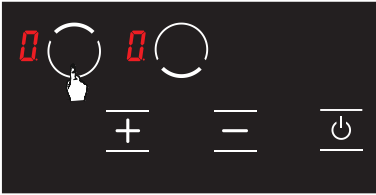

Figure 15
2. Press the upper hob selection key (  ) again. (See Fig. 15)